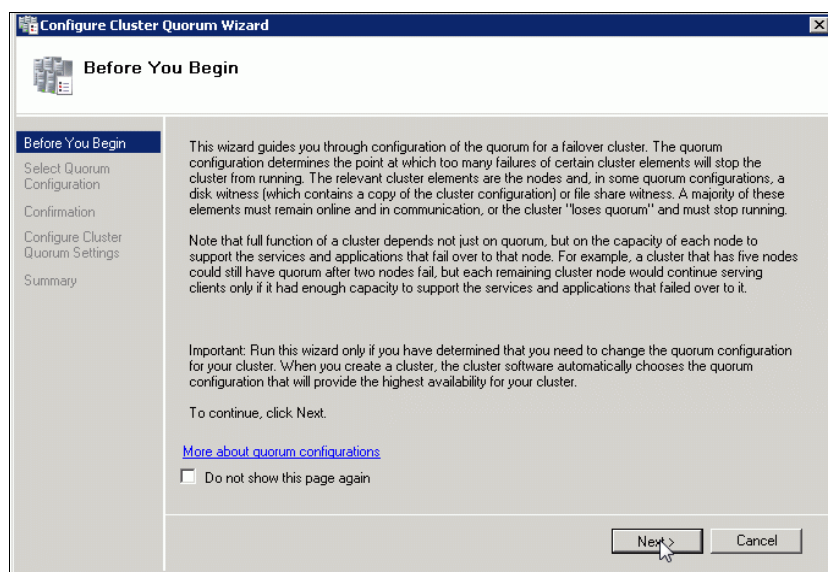

Figure 3-33 Configure Cluster Quorum Wizard window
10. Make sure that you have the correct cluster witness model, as shown in Figure 3-33. The old cluster model had a quorum as a single point of failure.